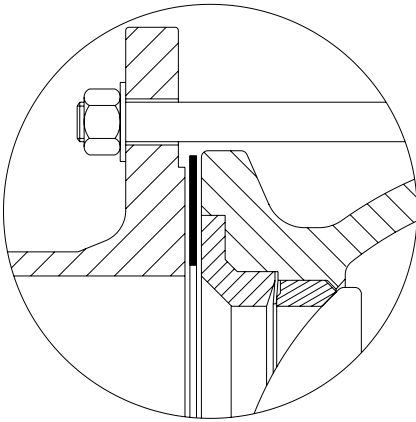

Fig.5-2 Gasket.
- Ensure that the valve and the gaskets are correctly centred and gaskets of the correct quality are used. The sealing function of the valve depends on the gasket on the inlet side, which transmits the pressure from the connecting flange to the cover plate (→ Fig.5-2)